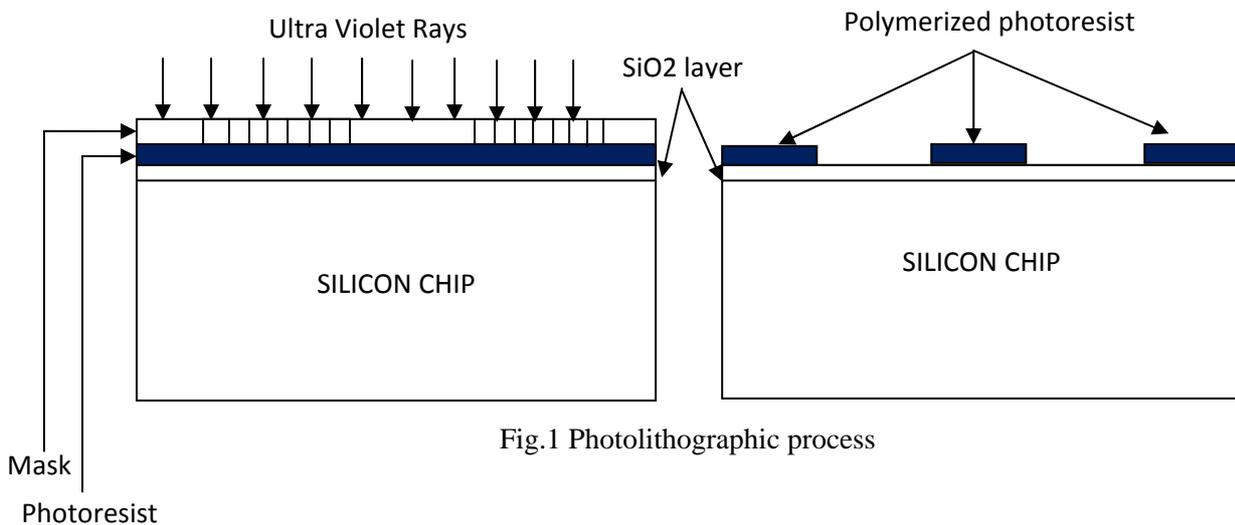

Fig.1 Photolithographic process
3. Diffusion: It is a process of introducing impurity atoms (dopants) into silicon to change its doping. Boron (p-type) and phosphorus (n-type) are the two commonly used dopants. The monolithic technique requires the selective removal of the silicon dioxide (SiO_2) to form openings through which impurities may be diffused, if required. The photolithographic process is used for this purpose. The photolithographic process is illustrated in fig.1. During the process the wafer is coated with a thin layer of photosensitive material, commonly known as photo resist (such as kodak photoresist KPR). A large black and white layout of the desired pattern of openings or windows is made and then reduced photographically. This negative or stencil, of the required dimensions is placed as a mask over the photoresist as shown in fig.1. This wafer surface with mask is then exposed to ultraviolet light. Due to UV light, the photoresist below the transparent portions of the mask becomes polymerised. The mask is now removed, and the wafer is developed by a chemical process.